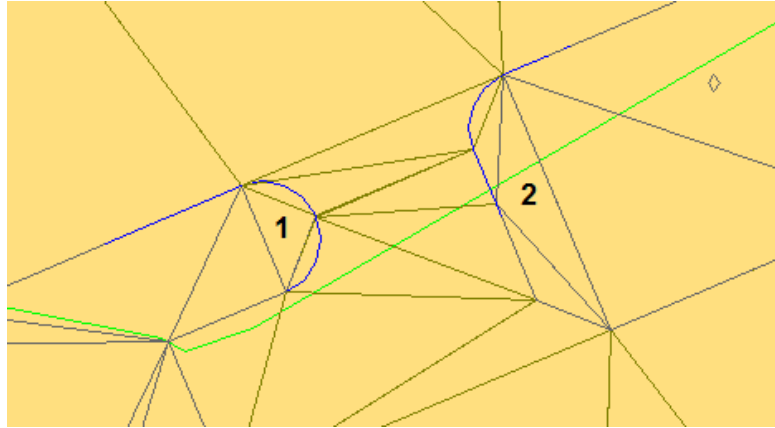

Figure 25: Triangulation issues
- The arc portion of our ramp (area 1 in figure 25) is not triangulated very well